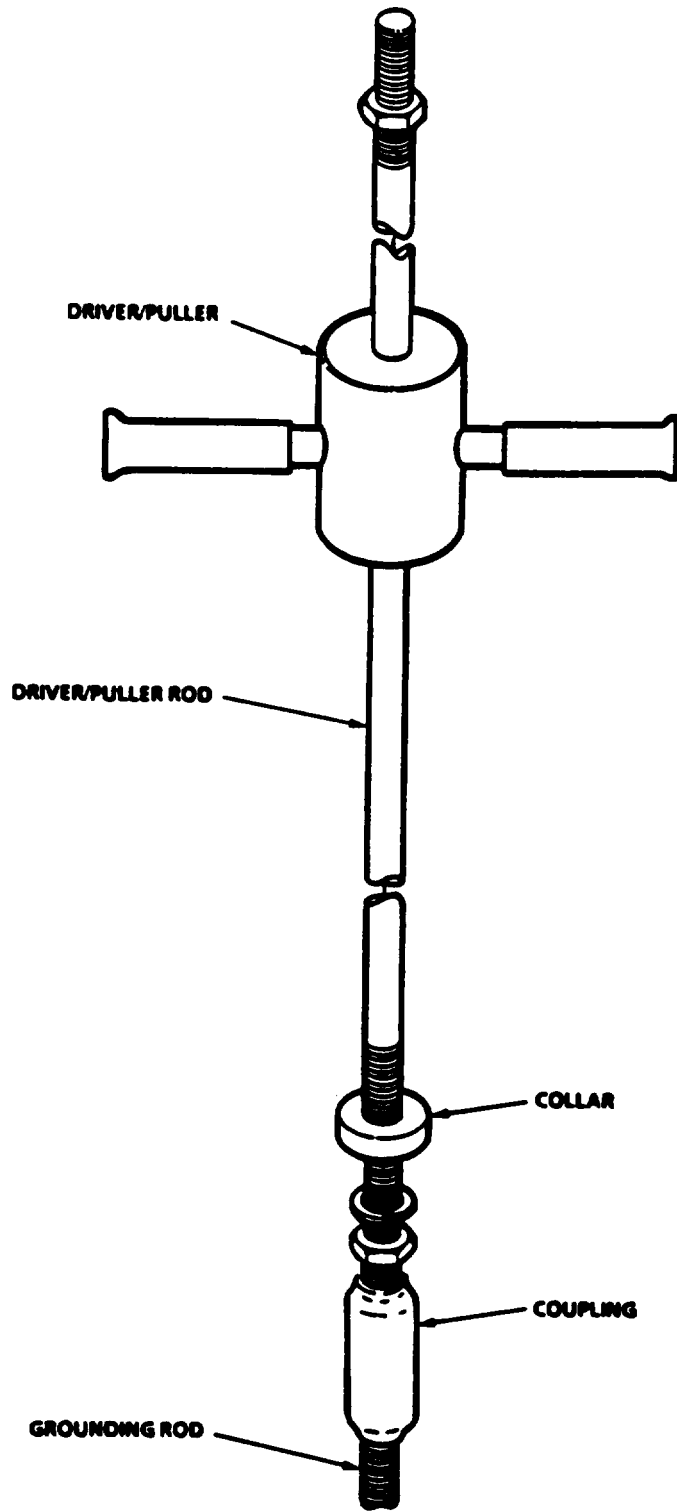

Figure 2-11. Grounding Rod and Driver/Puller
- (1) Remove grounding rod, driver/puller, and grounding cable from overpack box.
- (2) Select an area as close to the laboratory electrical connector receptacle as possible to install grounding rod.
- (3) Attach first grounding rod and coupling to the driver/puller rod (refer to Figure 2-11).